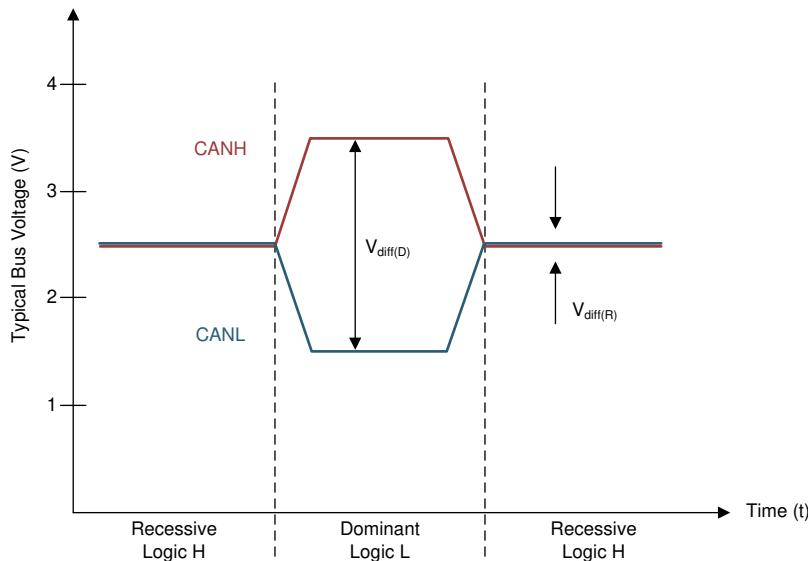
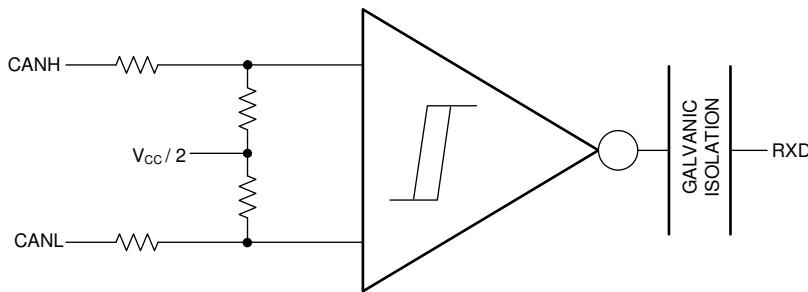

図 25. Bus States (Physical Bit Representation)
図 26. Simplified Recessive Common Mode Bias and Receiver
The CAN bus has two states during operation: *dominant* and *recessive*. A dominant bus state, equivalent to logic low, is when the bus is driven differentially by a driver. A recessive bus state is when the bus is biased to a common mode of $V_{CC} / 2$ through the high-resistance internal input resistors of the receiver, equivalent to a logic high. The host microprocessor of the CAN node uses the TXD pin to drive the bus and receives data from the bus on the RXD pin. See 图 25 and 图 26.
(1) H = high level, L = low level, Z = common mode (recessive) bias to $V_{CC} / 2$. See 图 25 和 图 26 for bus state and common mode bias information.